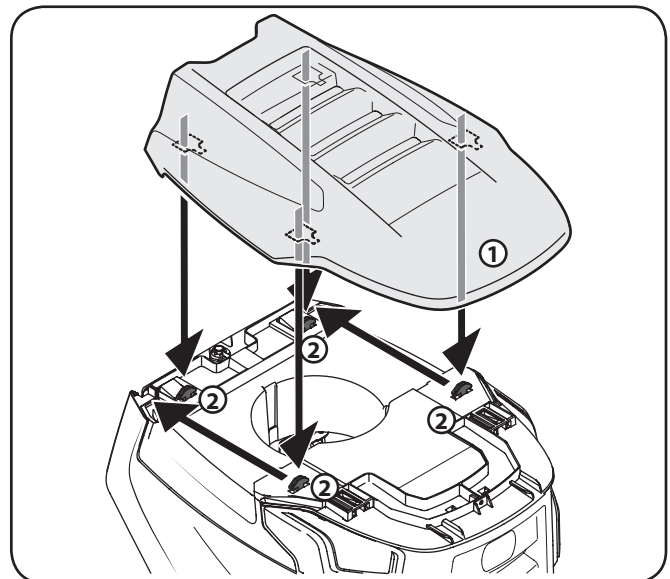

Figure 3-6
To install the hood topper (1), line up the holes on the hood topper (1) up with the tabs (2) in the hood frame as shown in Figure 3-6.